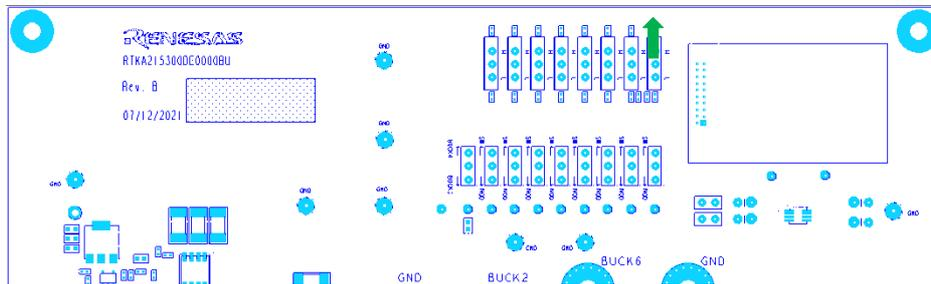

Figure 5. CEN Switch
1. Switch CEN on (see the green arrow in Figure 5).